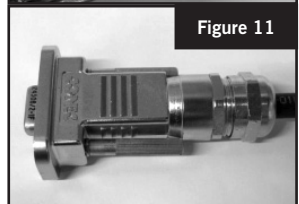

Figure 11
17. Screw the strain relief cap to the waterproof hood. (See figure 11) Ensure strain relief is snug against the cable.